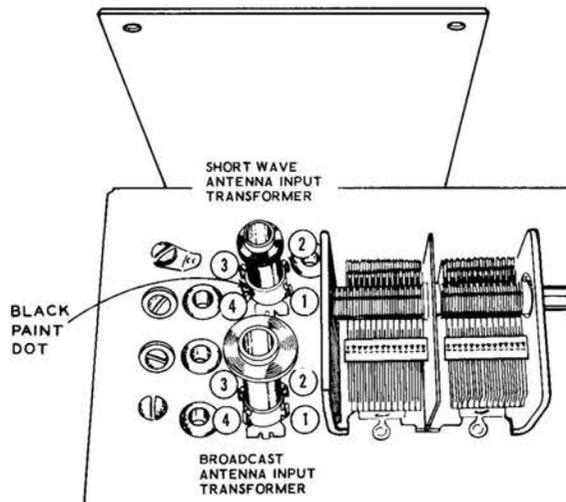

Figure 10M
- (P) Connect a 2" length of hookup wire to lug 4 of side D of the band switch (S).
- (P) Connect a 2" length of hookup wire to lug 3 of side D of the band switch (S).
- (P) Connect a 1-1/2" length of hookup wire to lug 2 of side D of the band switch (S).
- (M) Mount the short wave antenna input transformer (#40-300) in position as shown in Figure 10M. Note that there is a black dot on the coil to identify lug 4.